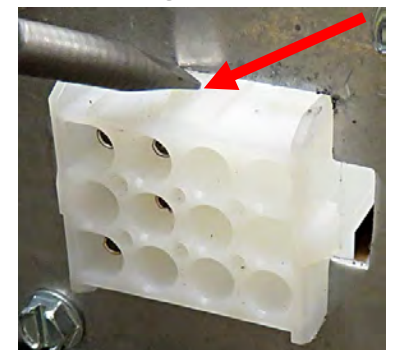

Figure 6
8. Using a screwdriver, remove the Molex connector out of the metal housing (see Figures 6 and 7).